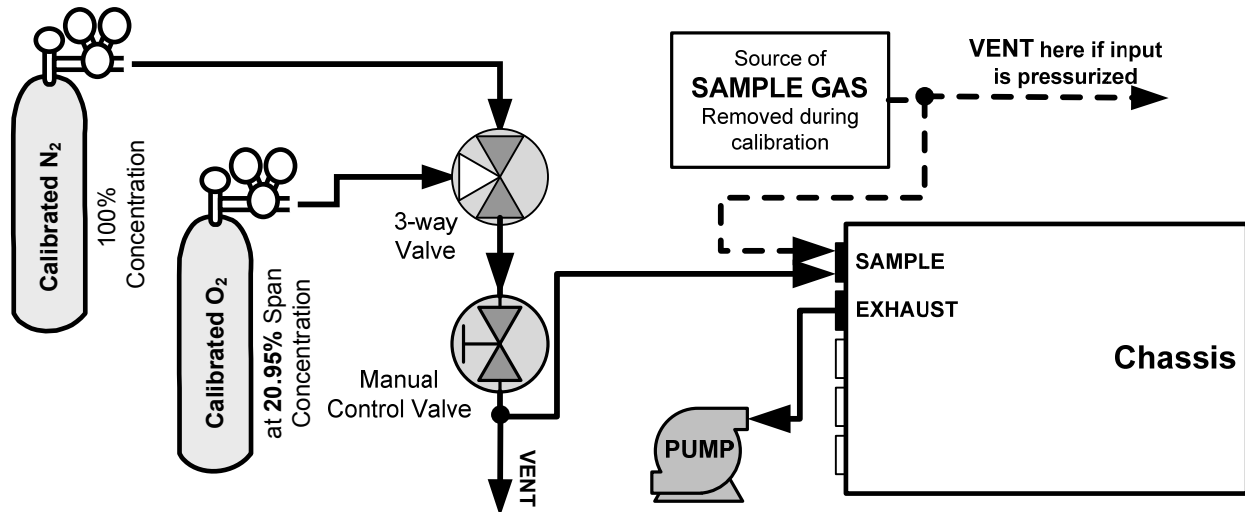

Figure 3-16: Pneumatic Connections—Basic Configuration—Using Bottled Span Gas
- In applications where the sample gas is received from a pressurized manifold, a vent must be placed on the sample gas before it enters the analyzer. Please refer to Figure 3-16.
The span gas, zero air supply and sample gas line **MUST** be vented (Figure 3-16) for two reasons: in order to ensure that the gases input do not exceed the maximum inlet pressure of the analyzer, and to prevent back diffusion and pressure effects. These vents should be: